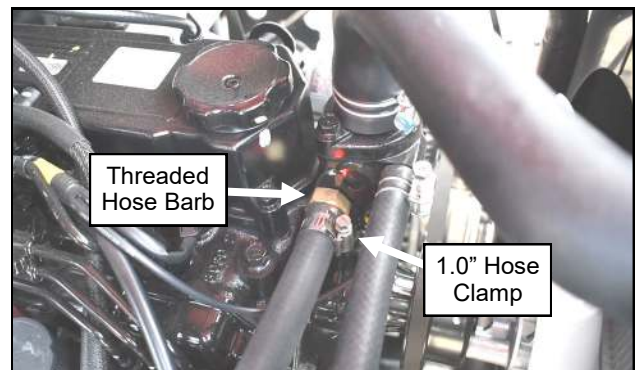

Figure 20.6 (Install Threaded Hose Barb Nipple)
- 20.6** Remove the plug from the bottom of the thermostat housing, transfer the sealing washer to the provided hose barb nipple, and install and tighten onto the engine. See Figure 20.6.
- 20.7** Run the remaining leg of hose around the outside of the coolant overflow tank, between the tank and the air intake tube, and over to the hose barb. Cut the hose to length at the hose barb, and install it with a hose clamp. See Figure 20.6.